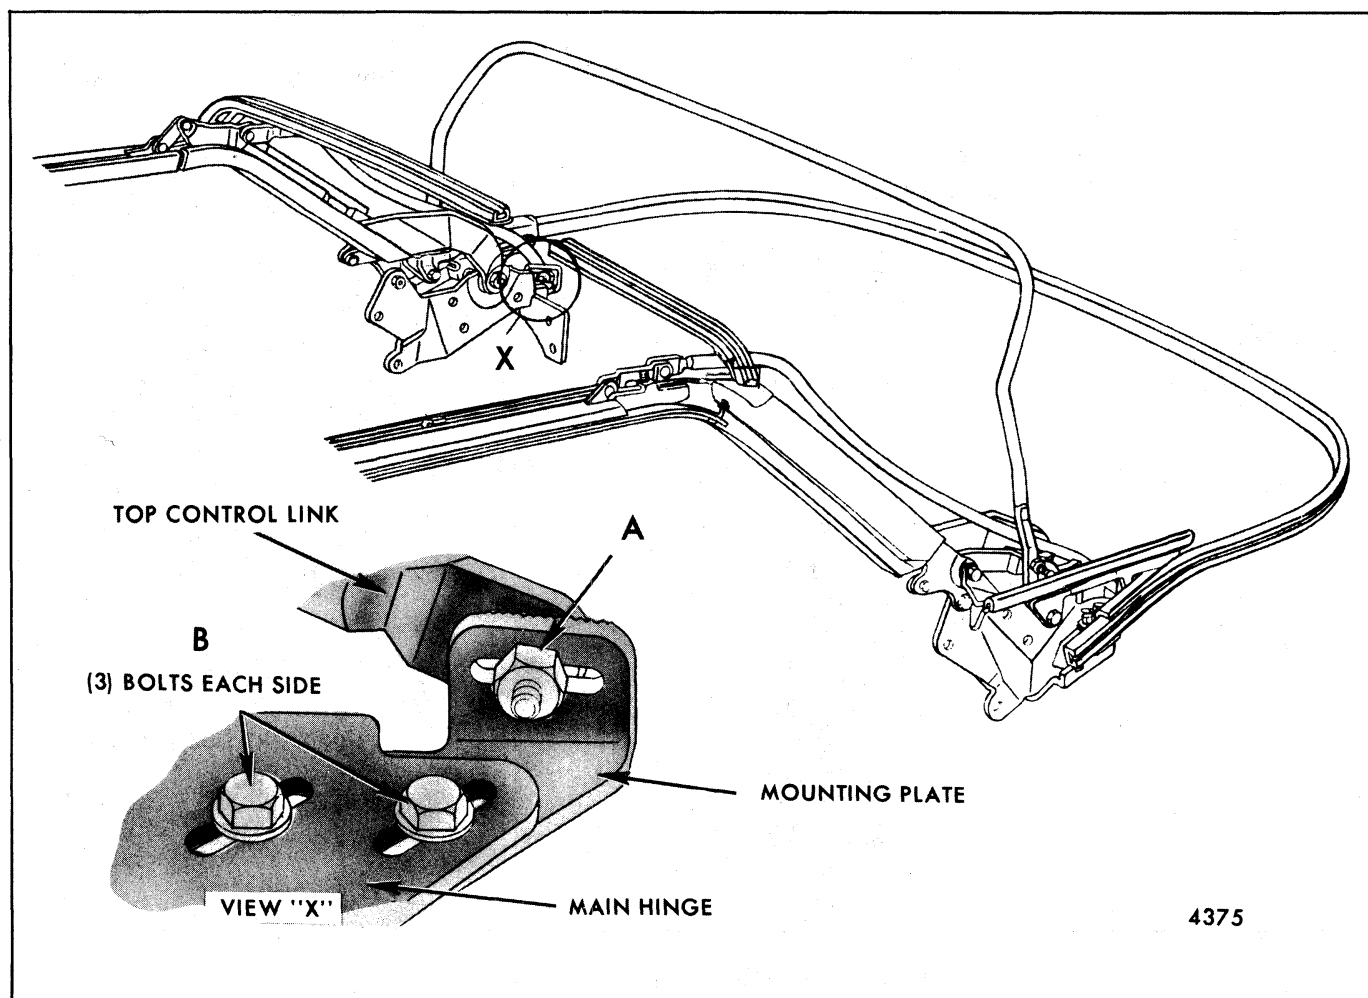

Fig. 8-102-Top Control Link and Mounting Plate Attachment
"A", Fig. 8-102) on each side. Allow front and side roof rails to lay normally in folding top compartment.
3. Loosen three mounting plate attaching bolts (Fig. 8-102).